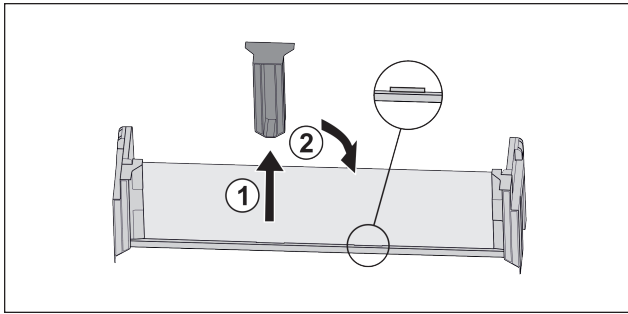

Fig. 124
- ▶ Pull off the middle holder Fig. 124 (1).
- ▶ Insert the middle holder in the second position Fig. 124 (2).